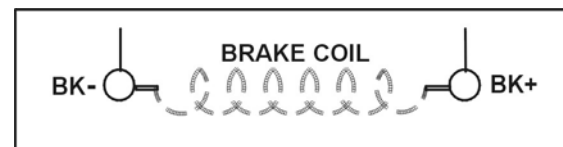

Figure 2-6
- 2) The second circuit will be to provide power to the brake coil. These 2 wires can be run with the motor wires. [See Figure 2-6.]